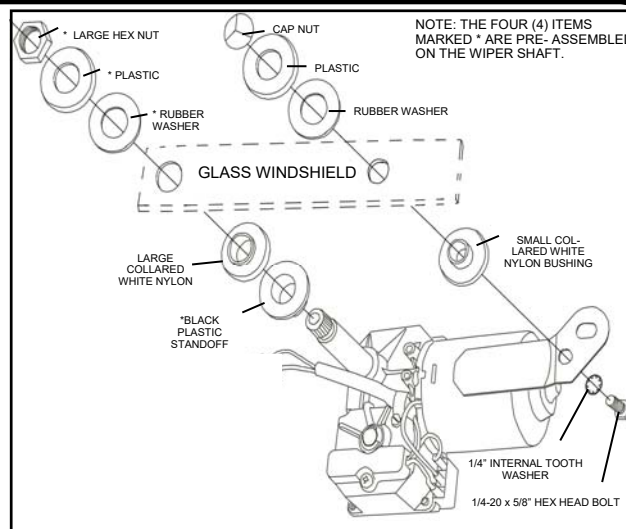

Figure 14.2: Wiper Motor Installation
- 14.2 From inside of cab, insert motor shaft through the larger hole in the windshield until the white nylon bushing is against the windshield. Replace the rubber washer, plastic washer and hex nut on the outside of the windshield. **(Figure 14.2)** Do not tighten completely at this time.
- 14.3 From inside, put small white nylon bushing with the collar into the small hole in the windshield and pivot the wiper motor so that the small hole aligns with the hole in the bushing. Insert the 1/4-20 bolt through the internal tooth washer, the hole in the wiper motor bracket, the small bushing, and finally the windshield. Next install the rubber washer, plastic washer, and cap nut on outside of windshield. **(Figure 14.2).**